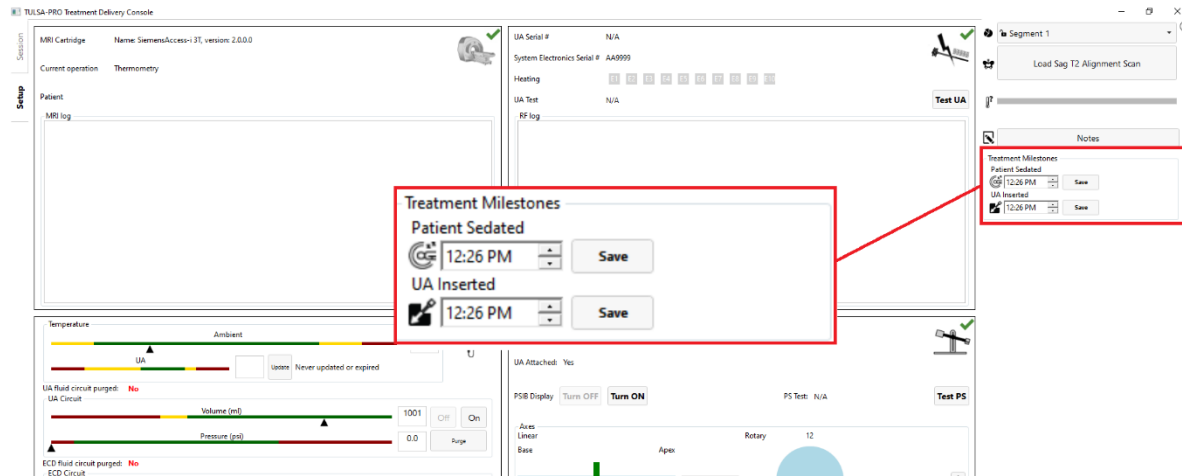

Figure 30: Entering Treatment Milestones in the TDC Setup Workspace
1. In the TDC *Setup Workspace*, enter the sedation and UA insertion times under **Treatment Milestones** (Figure 30).